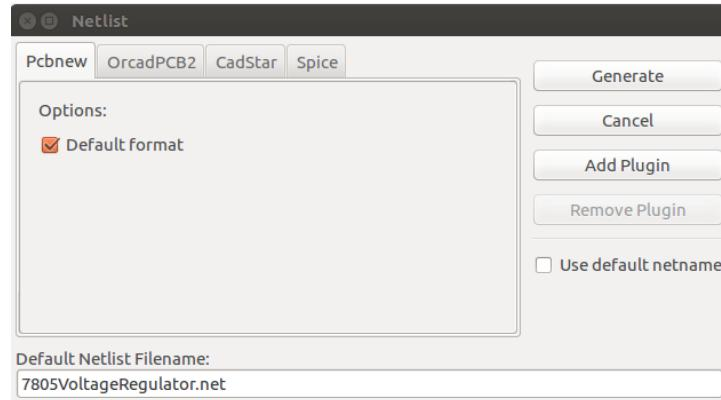

Figure 12.9: Netlist generation for PCB
- In the Netlist window, under the tab *Pcbnew*, Select the option **Default format**. This is shown in Fig. 12.9. Click on **Generate** option.